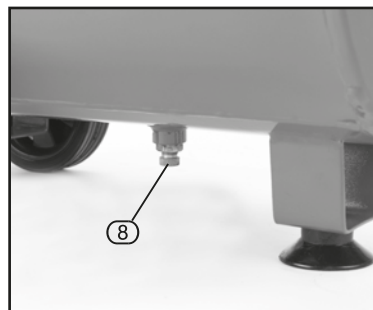

FIG.10
11.2 GENERAL MAINTENANCE AND SERVICE INTERVALS - FIG. 10